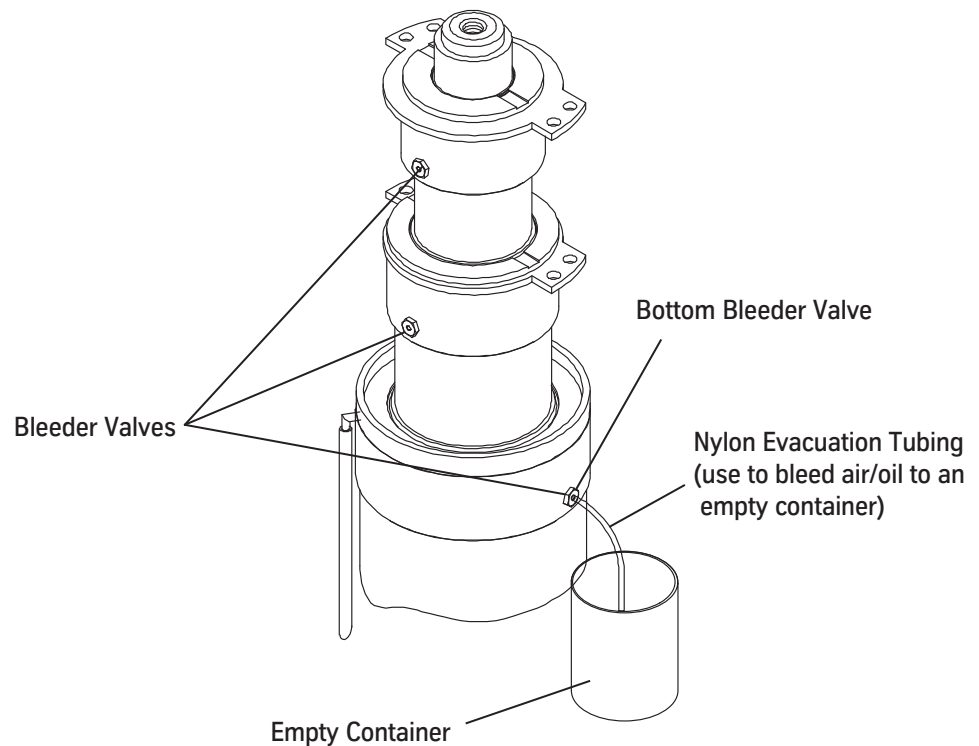

Figure 38 - Bleed the Jacks
1. Insert one end of nylon evacuation tubing from the jack accessory kit into one of the bottom bleeder valves and the other end of the tube into an empty container. See Figure 38.